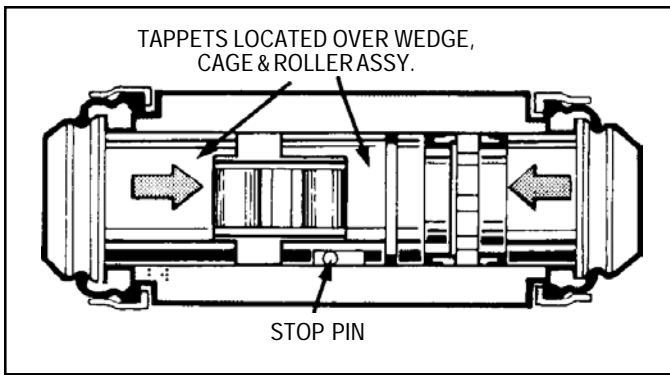

FIGURE 19 - EXPANDER TAPPET LOCATION
5. Insert the abutment tappet assembly into the housing bore until it engages with the wedge cage and roller, *Figure 19*. Install the dust boot to the end of the housing.